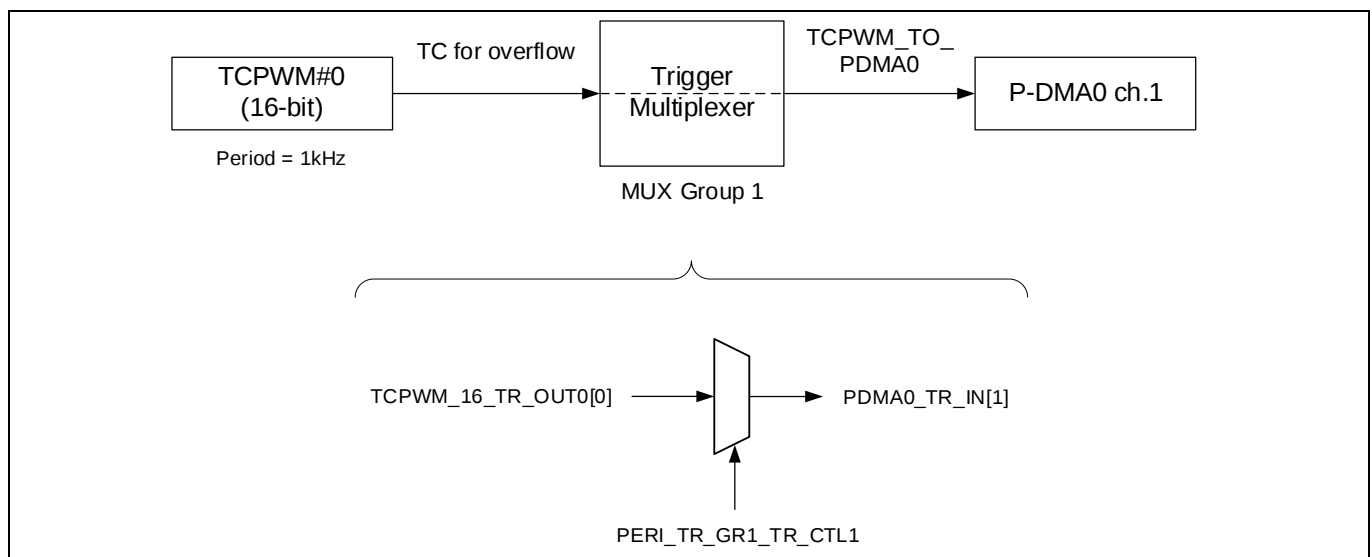
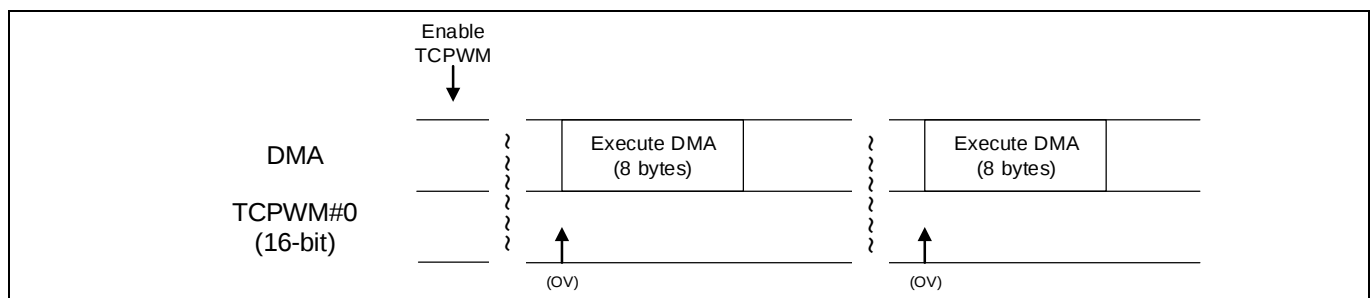

Figure 9 Example of group trigger in XMC7200
Figure 10 Example operation: Triggering P-DMA (DW) transfer by TCPWM counter overflow
3.1.1 Use case description of triggering P-DMA (DW) transfer by TCPWM timer
Figure 9 shows an example application for group trigger in XMC7200. Data transfer of P-DMA (DW)0 channel 1 is triggered by TCPWM 16-bit channel 0 on group trigger Multiplexer Group 1. TCPWM counter overflow event triggers P-DMA (DW)0 channel 1 to start its data transfer from the SRAM source buffer to the SRAM destination buffer. Figure 10 demonstrates the operation. For more details on TCPWM and DMA Components, see the TCPWM and Direct Memory Access chapters of the architecture reference manual [2].